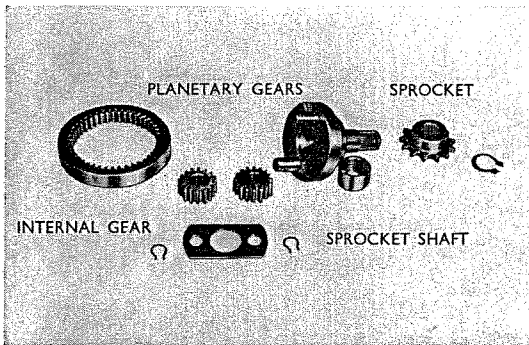

Fig. 5.75 Parts of starting motor reduction mechanism
of the starting sprocket should be assembled. If the sprocket is forced in without disassembling the starting motor, the planetary gear contacts the case and rotation cannot be obtained. (Refer to Fig. 5.75 to 5.77)
In lubrication of the overrun clutch, oil applied at the position shown in Fig. 5.75 (A) passes the three grooves shown in Fig. 5.74 (B) and is applied to the interior of the oil seal, which prevents seizure. Therefore, lubricating positions (A) and (B) must be cleaned by employing compressed air upon disassembly. (Refer to Figs. 5.82 and 5.83)